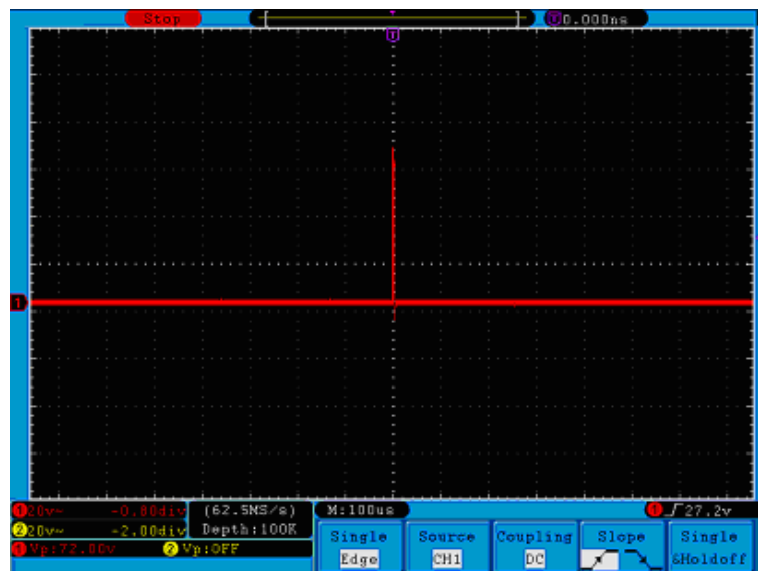

Figure 84. Capturing a Single Signal.
- 15 Check the Trigger State Indicator on the top of the screen, if it is not Ready, push down the **Run/Stop** button and start acquiring, wait for trigger to happen. If a signal reaches to the set trigger level, one sampling will be made and then displayed in the screen. By using this approach, a random pulse can be captured easily. For instance, if we want to find a burst burr of high amplitude, set the trigger level to a slightly higher value of the average signal level, press the **Run/Stop** button and wait a trigger. Once there is a burr occurring, the instrument will trigger automatically and record the waveform during the period around the trigger time. By turning the **HORIZONTAL POSITION** knob in the horizontal control area in the panel, you can change the horizontal triggering position to obtain the negative delay, making an easy observation of the waveform before the burr occurs (see Figure 84).